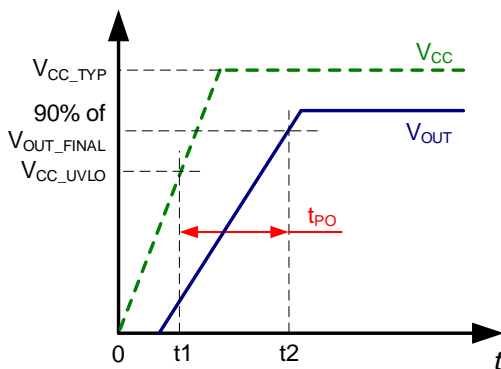

Figure 4: Power-On Time ( $t_{PO}$ )
2.  $t_2$ :  $V_{OUT}$  settles to 90% of its final value under an applied  $I_P$  (see Figure 4).